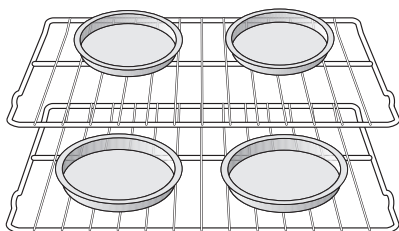

Figure 1: Baking on multiple levels
- For best results when baking cakes or cookies using two oven racks, place pans as shown in Figure 1.